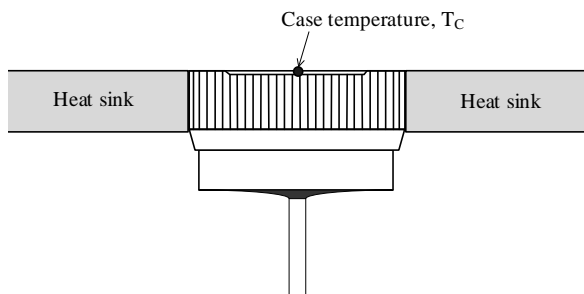

Figure 1. Case Temperature Measurement Conditions
(1)  $R_{th(j-C)}$  is thermal resistance between junction and case. Case temperature is measured as shown in Figure 1.
(2) See Figure 1 for the measurement conditions of case temperature.
(3) See Figure 1 for measurement conditions of lead temperature.